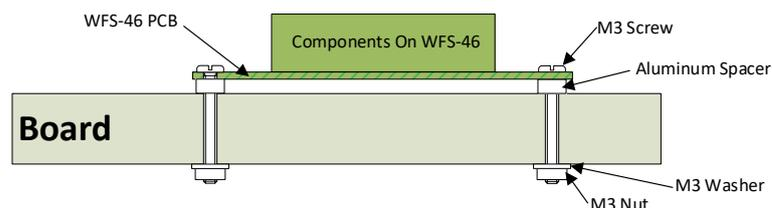

Figure 6 Mounting Suggestion
- (6) Mount the unit using the four M3 metric screws, nuts and spacers provided. Mount the unit on a suitable piece of board, either your baseboard (top or bottom) or a separate board perhaps at the front of your model railroad. The component side of the module should face away from the board as in Figure 6. It is a good idea to mount it somewhere that is easily accessible. If you omit the spacers be sure not to tighten screws so that the unit bends. Take care that no part of the unit touches any metal